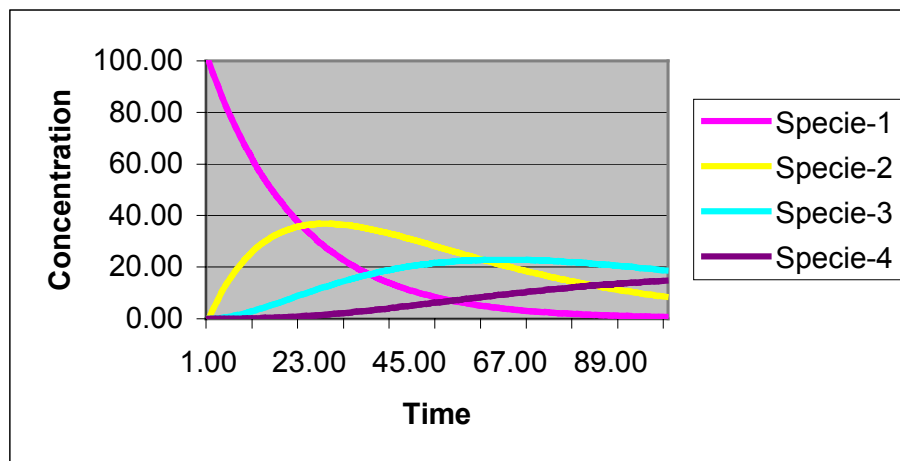

Figure 5.1 Sample Output from the BATCHRXN Code for the Sample Problem.
After reading the input, BATCHRXN will execute and create an output file called batchrxn.out. The output file will contain a set of white-space separated ASCII data in column format (written using the Format statement 21E15.5). For our example problem, five columns are output: Time, specie-1 (PCE), specie-2 (TCE), specie-3 (DCE), and specie-4 (VC). Use any spreadsheet software such as *Excel* to plot and analyze this output data. The BATCHRXN output results for the example problem are shown in Figure 5.1.